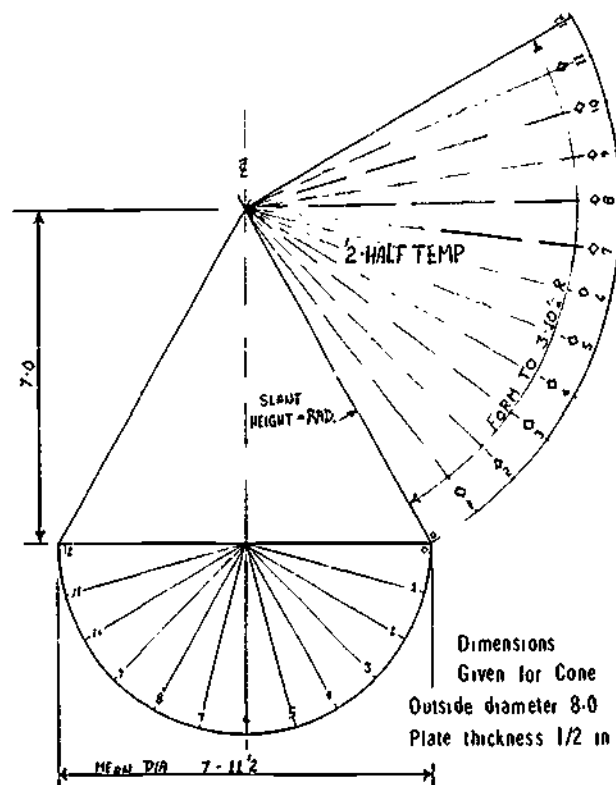

Figure 5-39. Pattern Development of a Cone
To develop the cone shown in Figure 5-39, follow these steps:
- Step 9. Divide the arc into 12 equal divisions and number as shown in Figure 5-39.